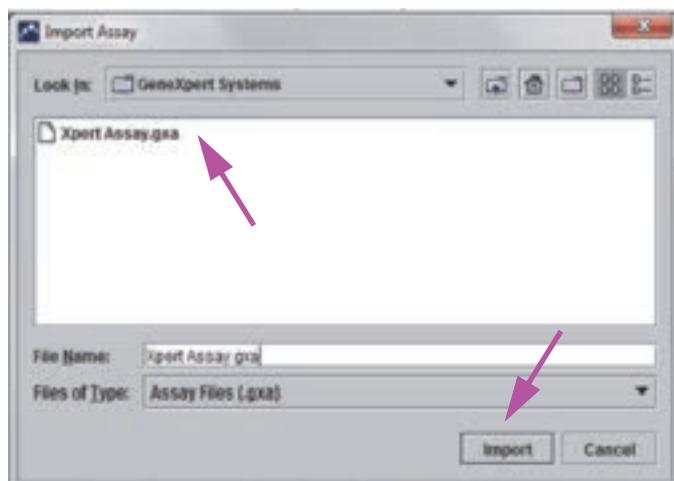

Figure 2-92. Import Assay Dialog Box
2. Click **Import**. The Import Assay dialog box appears. See Figure 2-92.